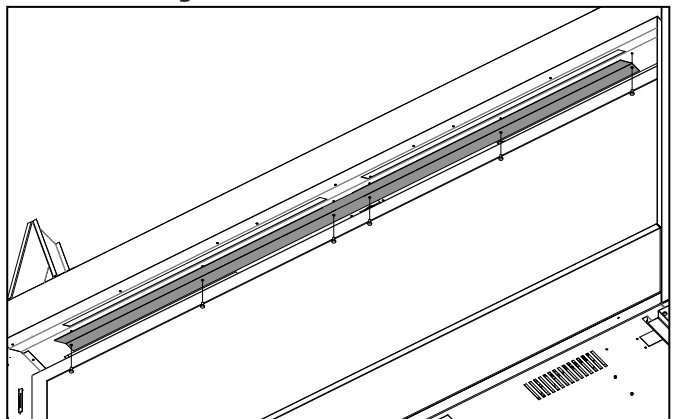

Figure 35: CSS Cover Removal
5. Rotate the hinge plates up so the prepunched holes align where the screws from the previous step were removed. Reattach the screws to hold the plates in place (see Figure 35).